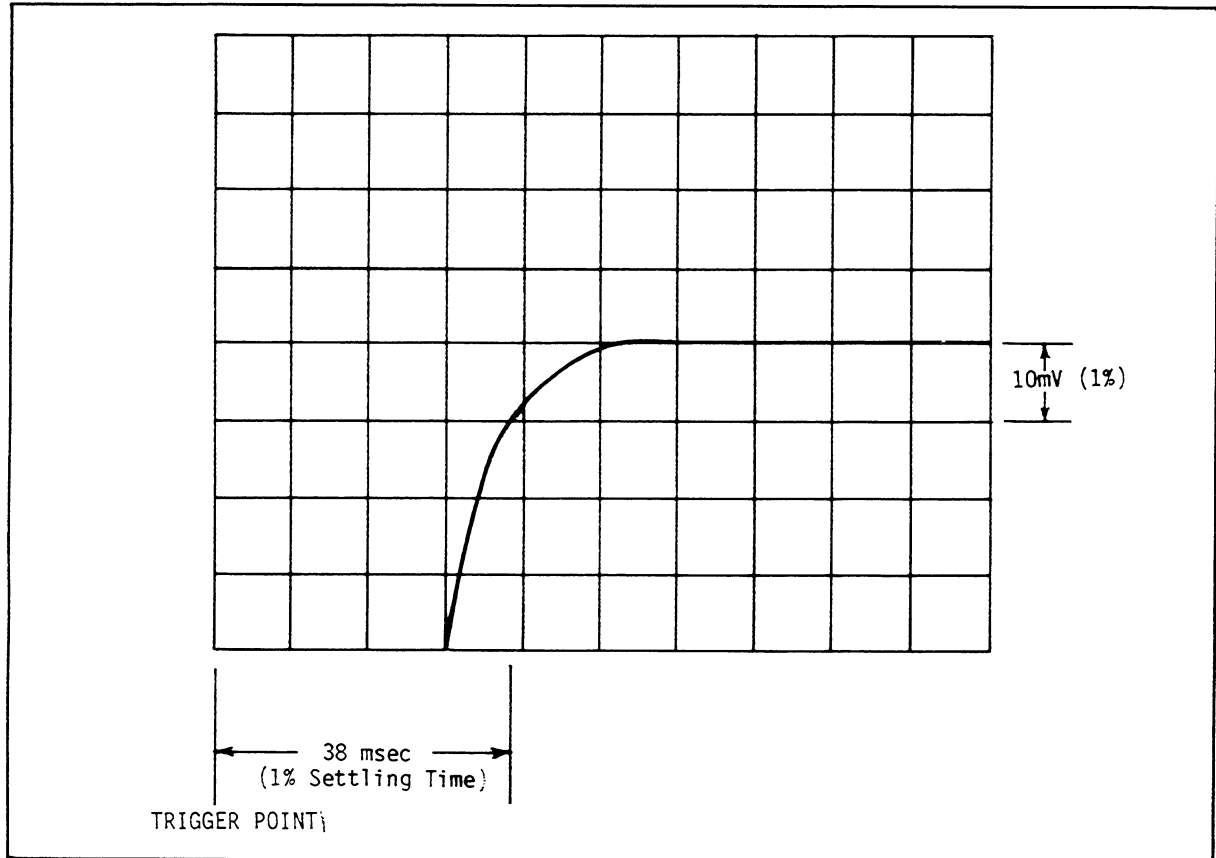

FIGURE 3-3. Typical Scope Display for 1% Settling Time on the  $10^{-8}\text{A}$  Range
g. Release the ZERO CHECK and verify that the 1% Settling Time on the scope is ≤40ms (see Figure 3-3).